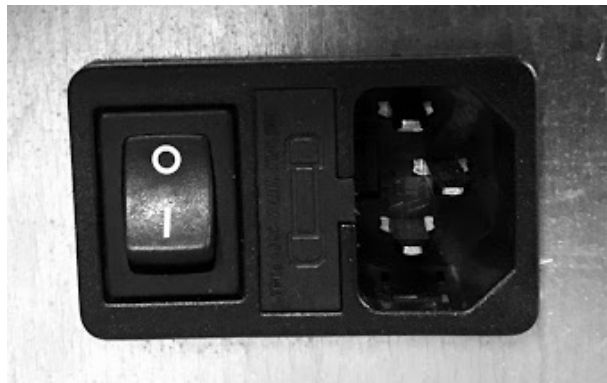

Fig. 74 - Electric socket with master switch
- Connect the supply cable first on the back of the stove (see **Fig. 74**) and then at a wall electric socket.
- The master switch O/I (see **Fig. 74**) is to open only to switch the stove on, otherwise it is advisable to keep it off.